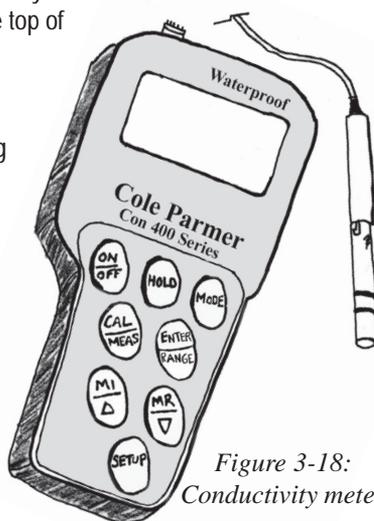

Figure 3-18:
- 1 Cole-Parmer Waterproof Conductivity Meter (Figure 3-18).
3. Press and release the **ON/OFF** button to turn the meter on (Figure 3-18).
4. Hit the **ENTER/RANGE** button slowly and deliberately three times (Figure 3-18). Once the **ENTER/RANGE** button is pressed the **Meas** light should start to flash. The first time you hit the enter button, the LCD should display two decimal places **0.00 uS**. Each time the **ENTER/RANGE** button is pressed the meter will drop a decimal place. The second time you should see **0.0 uS** and the third time **0 uS**.
4. Dip the probe into the sample container making sure that the second metal band on the probe is submerged in the water sample or waterbody (Figure 3-18). If the meter says **OR (Over Range)** hit the **ENTER/RANGE** button again. The LCD will then display in **mS**.